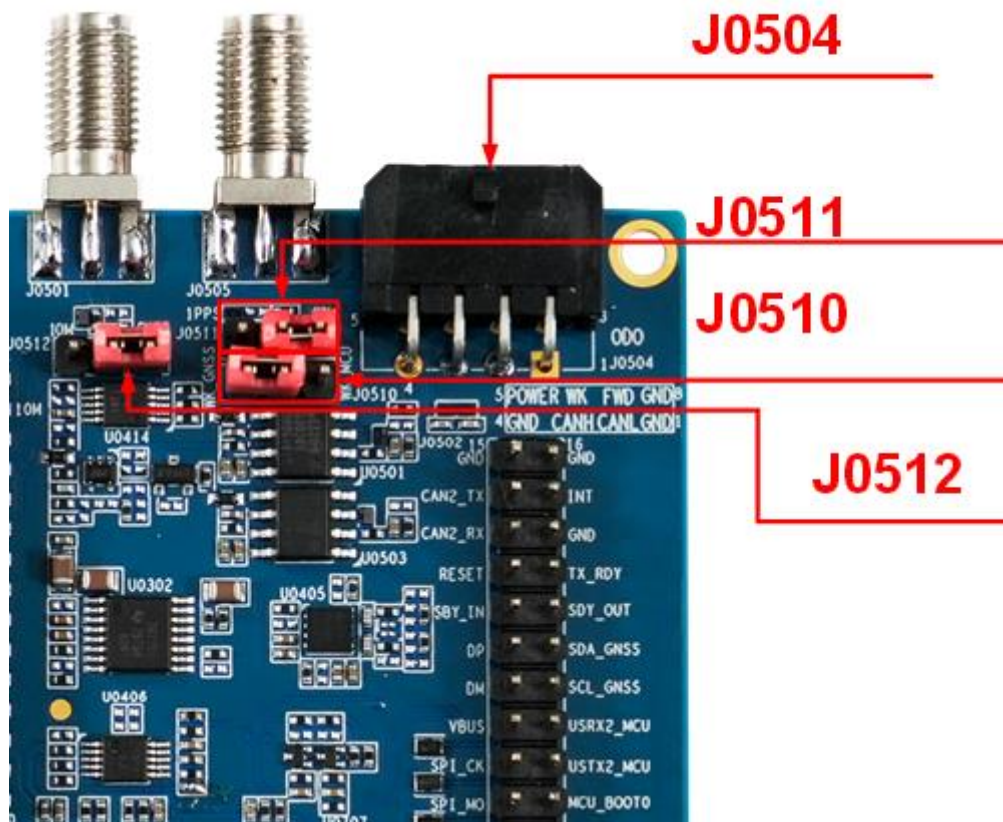

Figure 22: Injecting Vehicle Speed via WHEELTICK
Step 1: Connect the WK pin, the FWD pin, and a GND pin of J0504 to the corresponding interfaces on your device, and short-circuit pins of J0510, J0511, and J0512 as indicated in Figure 22: Injecting Vehicle Speed via WHEELTICK.